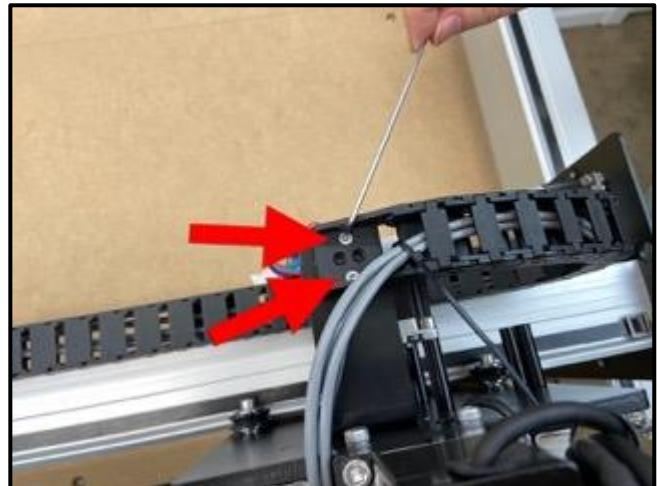

Figure 6-15
1. Reach over the X-rail and lift the X-Axis drag chain. Lay it flat along the length of the X-rail with the head near the Y2-carriage curling upwards. See *Figure 6-15*.
2. Curl the head of the drag chain up and towards the Z-Plus and rest it on top of the X-Axis drag chain head bracket. See *Figure 6-15*.
3. Use the 2mm hex key and two (2) M3x4mm flat head screws to secure the X-Axis drag chain to the head bracket. See *Figure 6-15*.